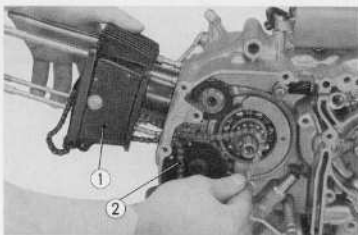

Fig. 3.48 Removing the cylinder
2. Remove the cam chain ② from the timing sprocket and remove the cylinder ① together with the chain. (Fig. 3.48)